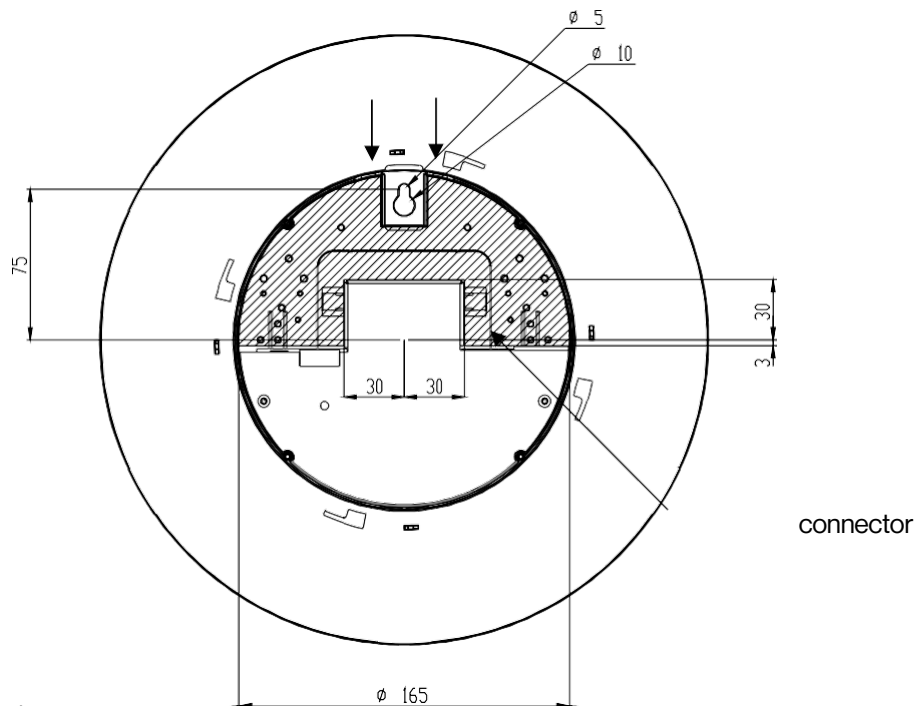

Fig. 1
1. When the network cable is coming out from the wall, ensure that cable output is positioned in the shaded area. See fig. 1.